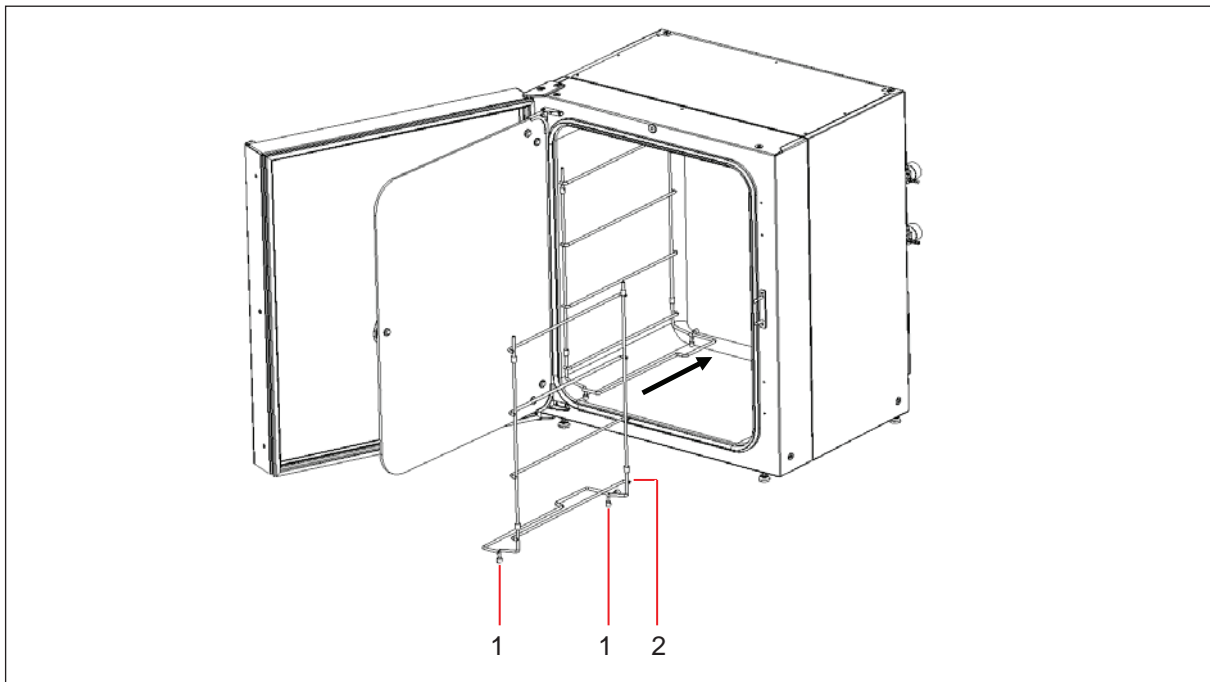

Fig. 4-2: Inserting shelf racks
2. Place two rubber shelf rack feet, and one shelf rack spacer onto each shelf rack (see Fig. 4-2 on p. 29).